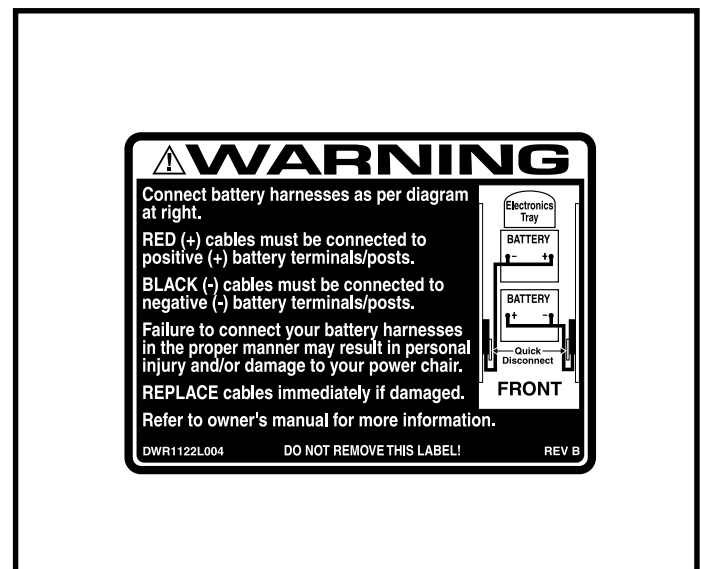

Figure 33. 1101/1121 Battery Wiring Diagram Label
- Check all electrical connections. Make sure they are tight and are not corroded. Batteries must sit flat within the battery well, with the battery terminals facing inward, toward each other. Refer to the frame decal for the correct wiring layout. See figure 33.
A diagram is printed on a decal located on the Jazzy frame near the battery tray. See figure 33.
10. Connect the battery quick disconnects according to the battery wiring diagram label. See figure 33.